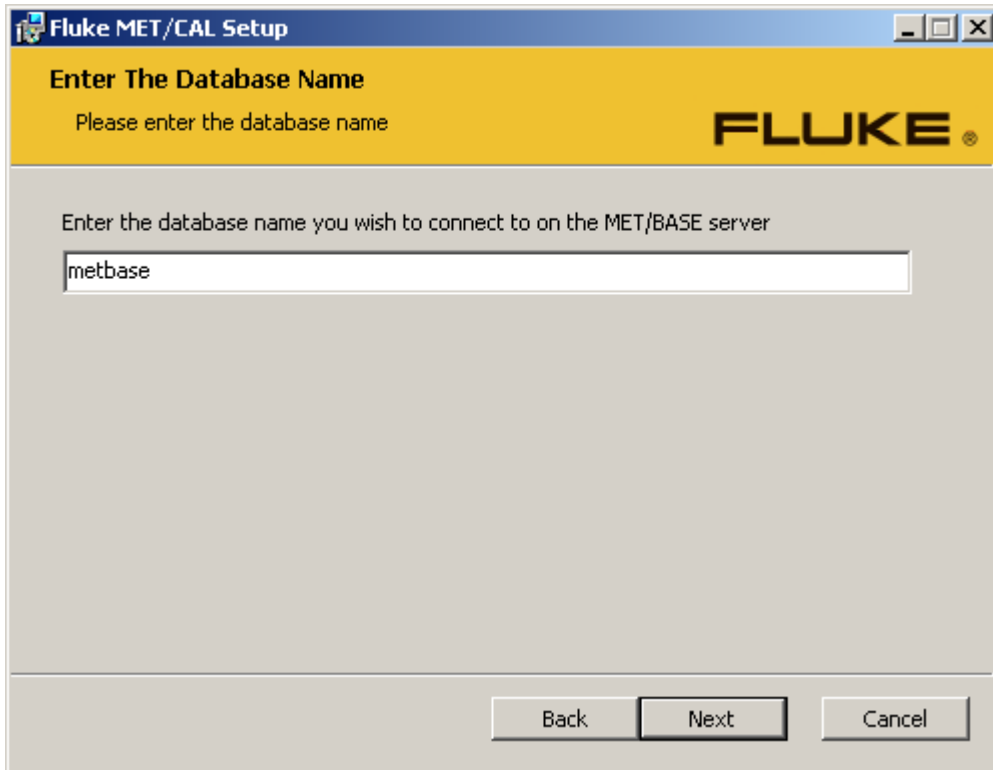

Figure 15. MET/TRACK Database Name
- b. For a networked installation, enter the name of the MET/BASE server. If a custom MET/BASE installation was performed, enter the same name that was entered for the MET/BASE installation. Otherwise, the default database name is metbase, see Figure 15.